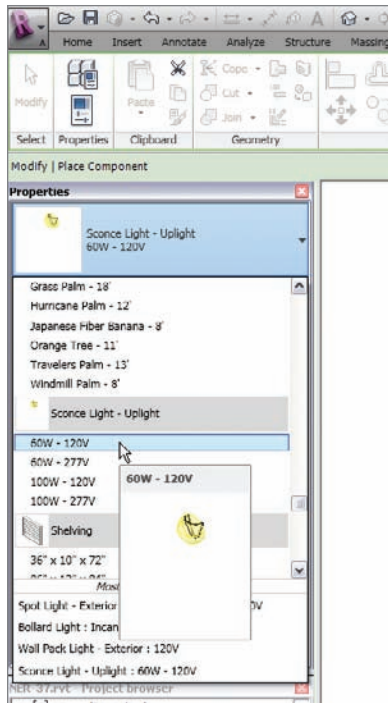

FIGURE 19.9 Choosing the sconce
10. In the Properties dialog, choose the Sconce Light - Uplight 60W - 120V family, as shown in Figure 19.9.
11. Place seven lights on the walls of the northeast corner classroom, as shown in Figure 19.9.